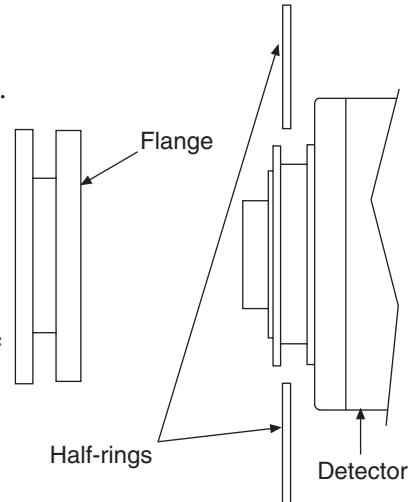

Figure 16. Type 1 Camera Adapter
1. Mount the flange to the camera using the two half-rings and the screws provided. Note that the tapered side of each half-ring faces the adapter. See Figure 16.